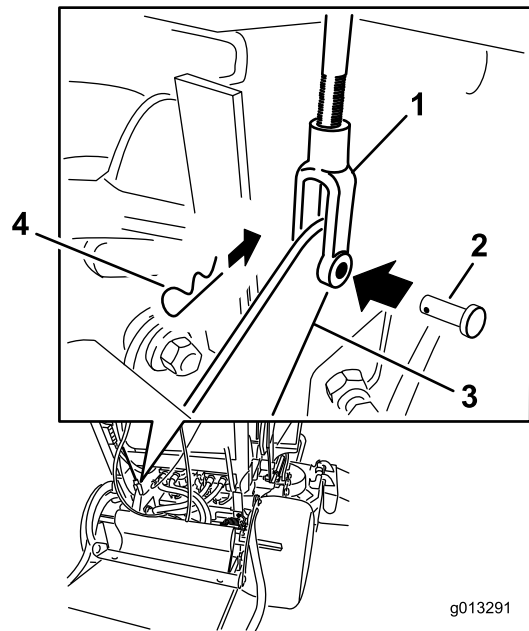

Figure 63
4. To adjust the brake, remove clevis pin and hairpin cotter pin from the lower brake lever and yoke (Figure 63).
7. Secure the yoke to lower brake lever with the clevis pin and hairpin cotter pin (Figure 63).